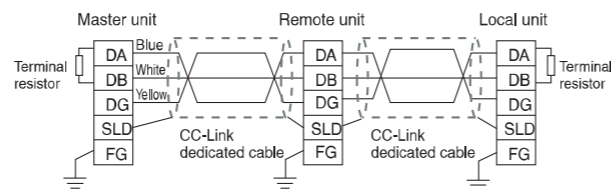

Fig.2
- Be sure to connect a terminating resistor between "DA" and "DB" at both ends of the CC-Link system (Refer to Fig.2). Use a cable with the same specifications as a CC-Link-dedicated cable. If a cable with any other specifications is used, normal data transmission cannot be guaranteed.